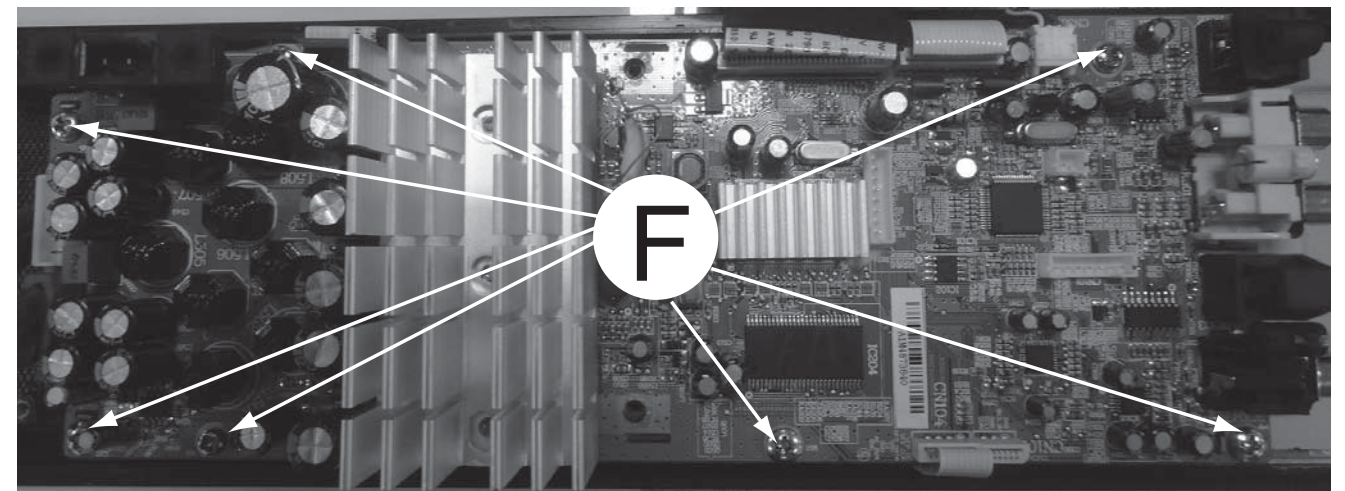

Figure 6
2) Loosen 7 screws "F" on the top of Main Board as shown in figure 6.